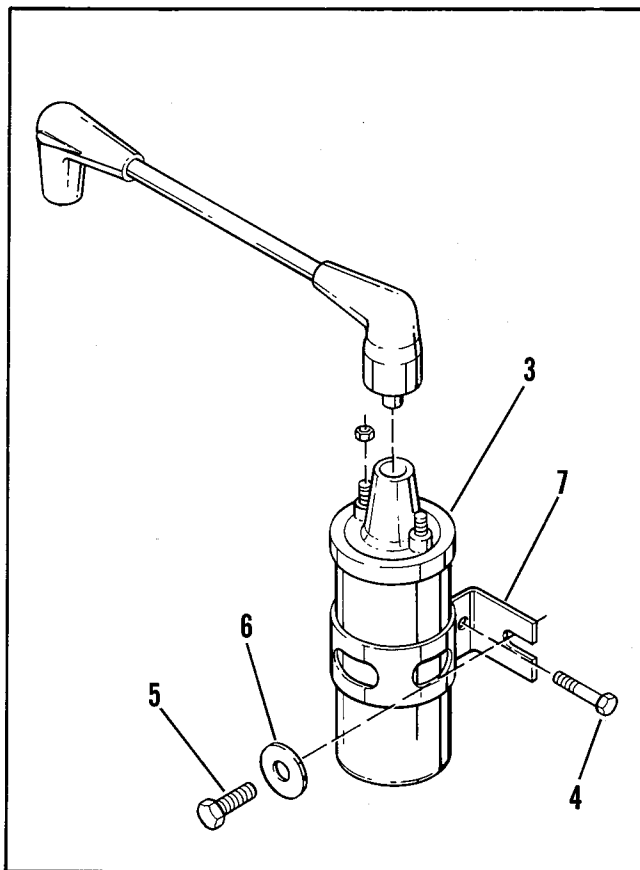

Figure 10-5 - Ignition Coil
- c. See Figure 10-5. Remove the two mounting bolts (5), washers and locknuts (6). Remove the coil.
Installation (Figure 10-5)